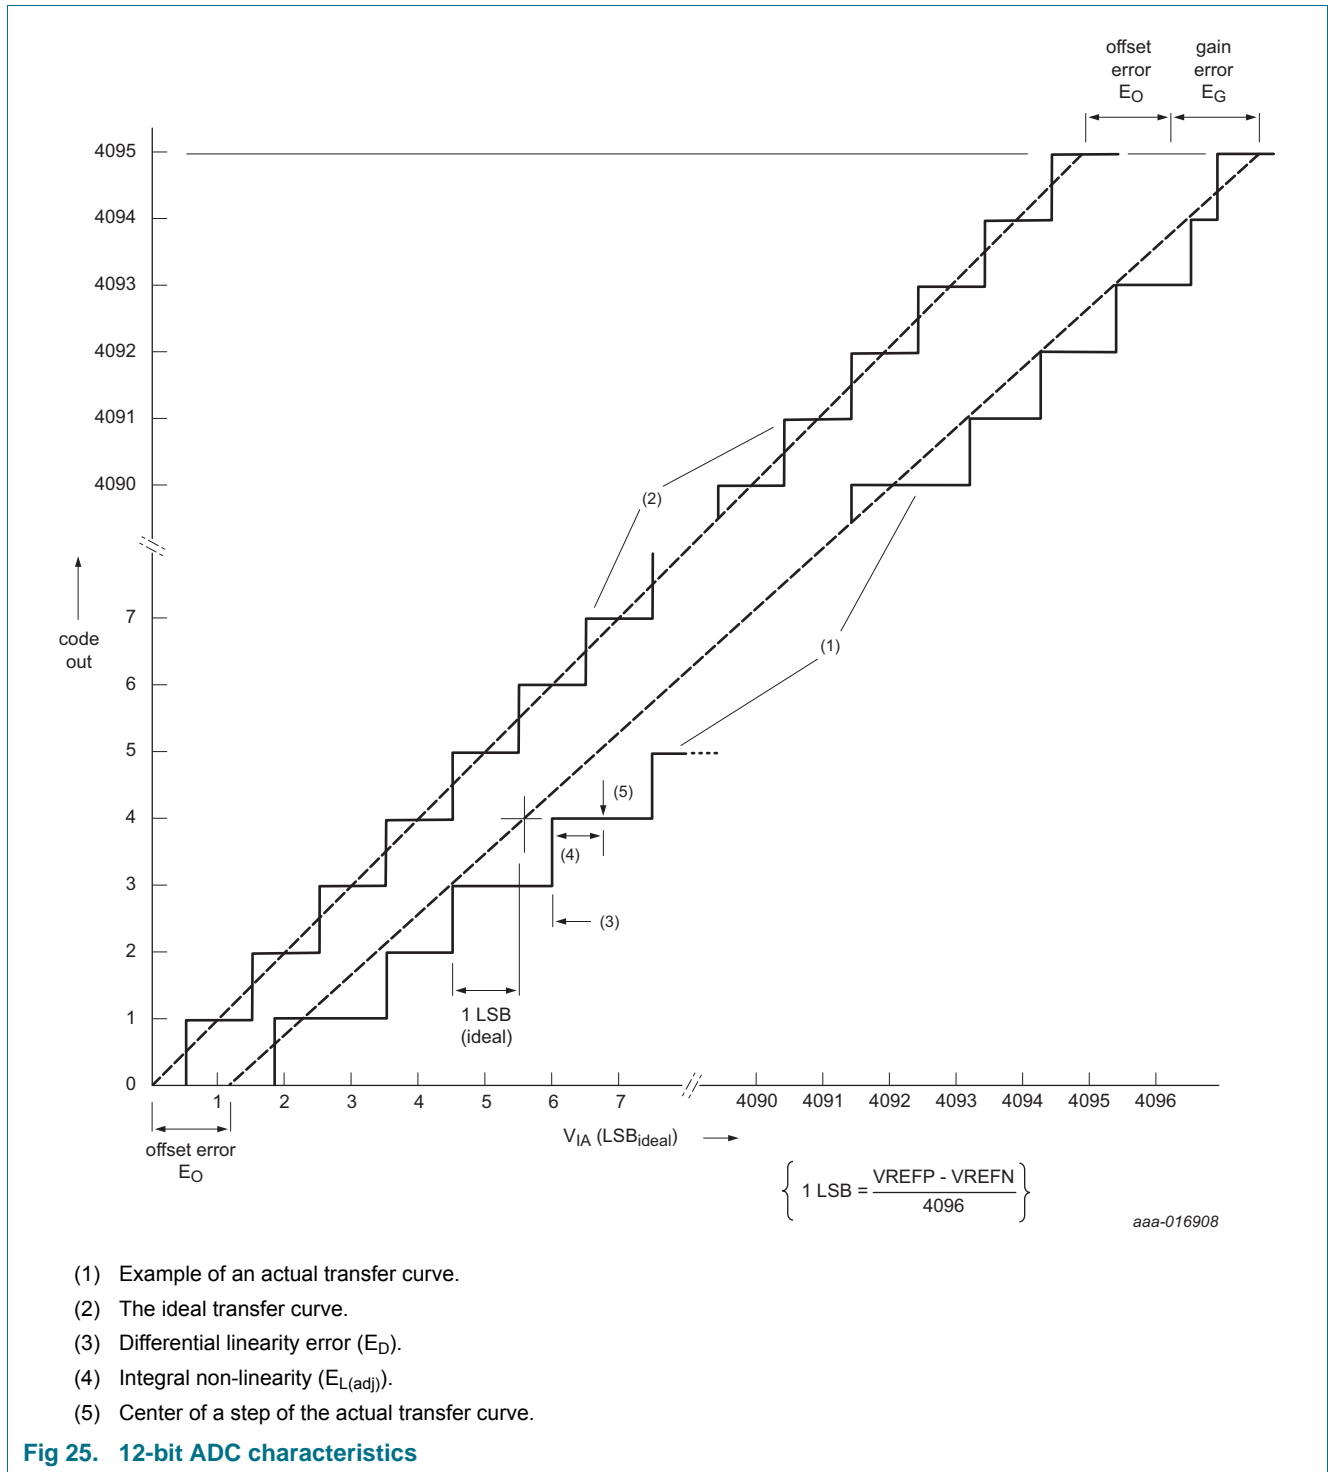

Fig 25. 12-bit ADC characteristics
- [5] The differential linearity error (E_D) is the difference between the actual step width and the ideal step width. See Figure 25.
- [6] The integral non-linearity ($E_{L(adj)}$) is the peak difference between the center of the steps of the actual and the ideal transfer curve after appropriate adjustment of gain and offset errors. See Figure 25.
- [7] The offset error (E_O) is the absolute difference between the straight line which fits the actual curve and the straight line which fits the ideal curve. See Figure 25.
- [8] The full-scale error voltage or gain error (E_G) is the difference between the straight-line fitting the actual transfer curve after removing offset error, and the straight line which fits the ideal transfer curve. See Figure 25.